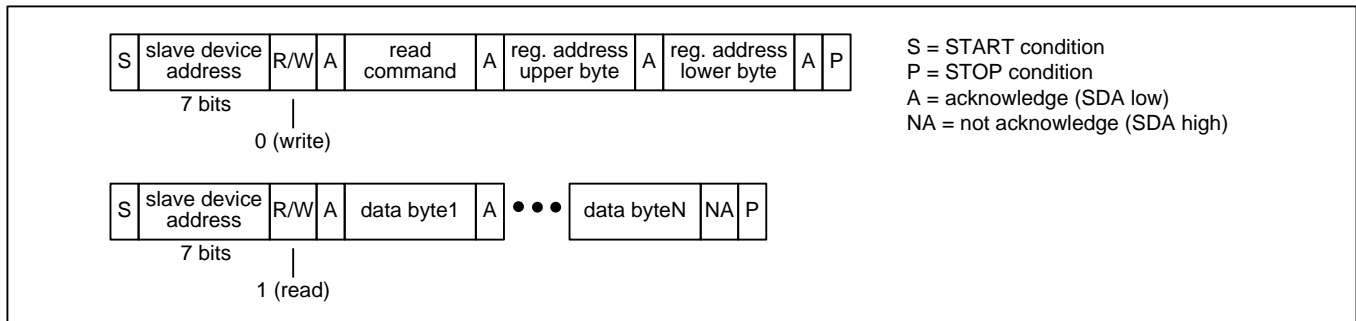
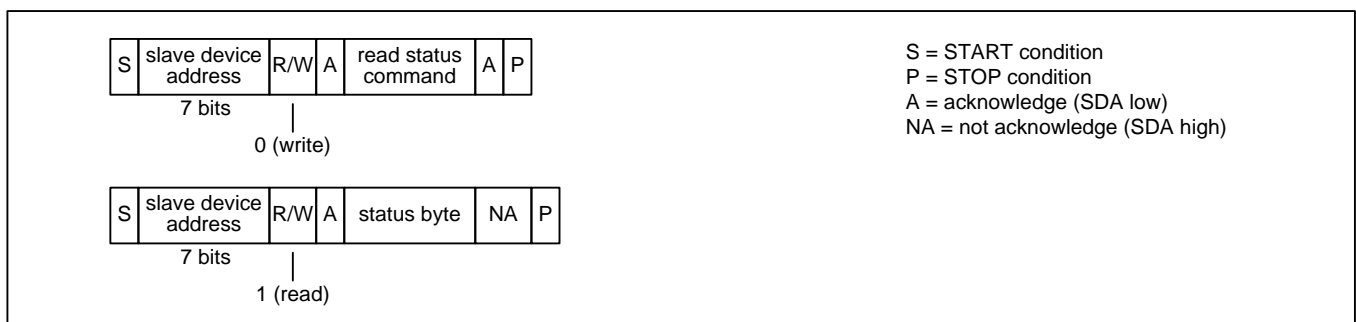

Figure 15 – I²C Read Transaction Functional Timing
Figure 18 – I²C EEPROM Read Status Transaction Functional Timing
Read Transactions. The device registers are accessible when `EESEL=0`. The internal EEPROM memory is accessible when `EESEL=1`. The bus master first does an I²C write to the device. In this transaction three bytes are written: the SPI Read command (see Table 4), the upper byte of the register address, and the lower byte of the register address. The bus master then does an I²C read. During each acknowledge (A) bit the device fetches data from the read address and then increments the read address. The device then transmits the data to the bus master during the next 8 SCL cycles. The bus master terminates the read with a not-acknowledge (NA) followed by a STOP condition (P). See Figure 15. Note: If the I²C write is separated from the I²C read by other I²C transactions then the device only outputs the data value from the first address and repeats that same data value after each acknowledge (A) generated by the bus master.
EEPROM Read Status. The bus master first does an I²C write to transmit the SPI Read Status command (see Table 4) to the device. The bus master then does an I²C read to get the status byte. In this byte, the least significant bit is set to 1 if the transfer is still in progress and 0 if the transfer has completed. See Figure 18.
Note: In Figure 15 through Figure 18, a STOP condition (P) immediately followed by a START condition (S) can be replaced by a repeated START condition (Sr) as described in the I²C specification.